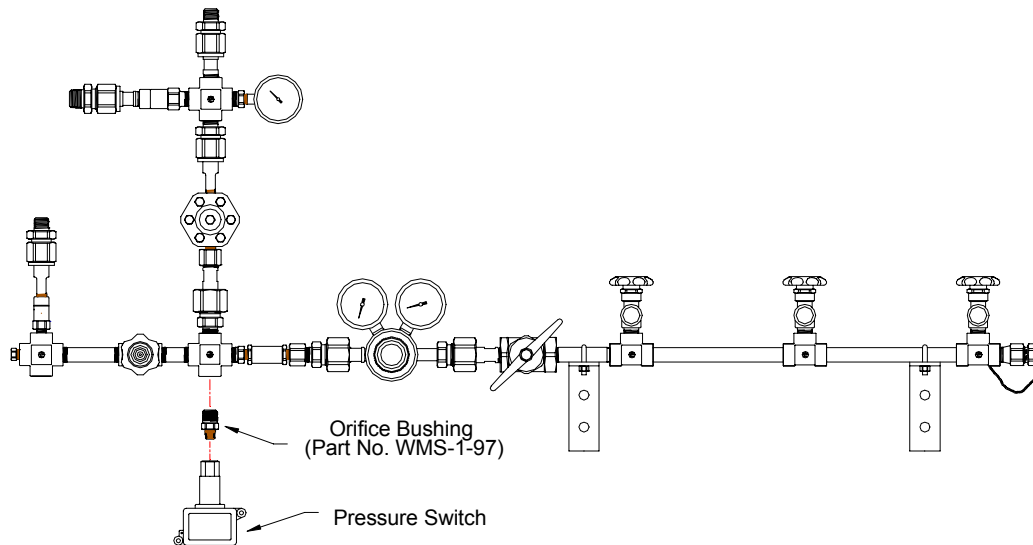

FIGURE 6
1. Install an orifice bushing into the 1/2 NPT cross (Figure 6).
2. Install the pressure switch onto the orifice bushing (Figure 6).